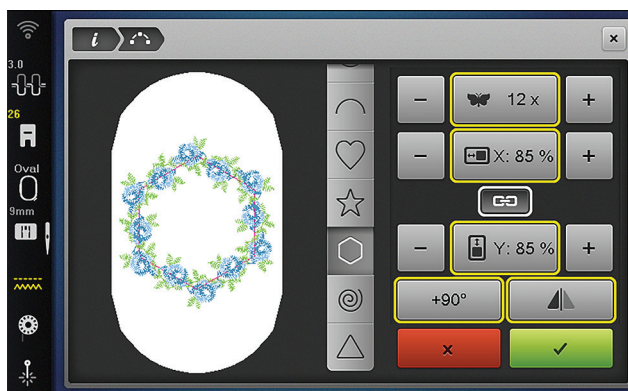

Fig. 9
9. Tap the Mirror Image icon (Fig. 9).